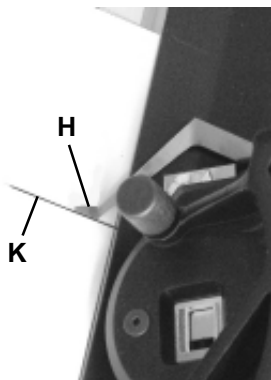

Figure 6
4. Press down on the **Clamp Handle** and pivot the bevel cutting blade into the mat for the start of a cut. Figure 6 shows the starting position by lining up the **Sight Gage (H)** with the upper pencil line (K).